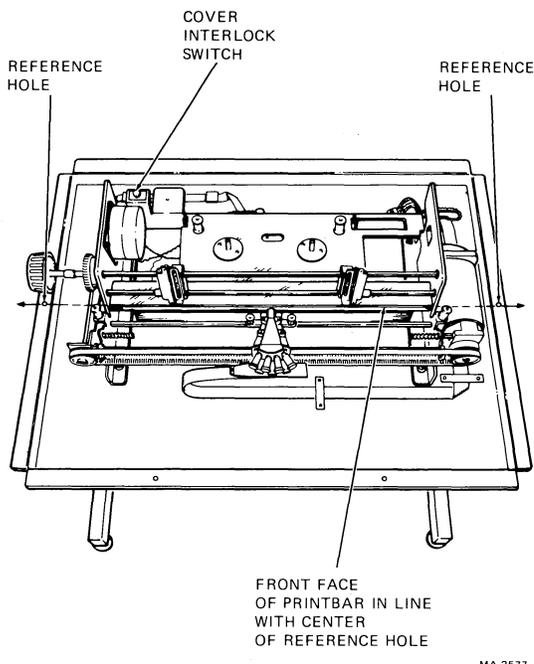

Fig. 12—Cabinet Reference Holes
- (i) Remove the two wires from the cover interlock switch (Figures 12 and 16).
- (h) Adjust the position of the printer mechanism (front to back) so that the front surface of the print bar coincides with the centerline of the reference holes in the cabinet (Figure 12) within 0.030 inch. Tighten the four (10-32) screws.
- (j) Slide the print head assembly across the carriage rods and check to ensure that the carriage assembly does not rub and is parallel to the bent up flange (Figure 12). Loosen and readjust the printer mechanism if necessary.